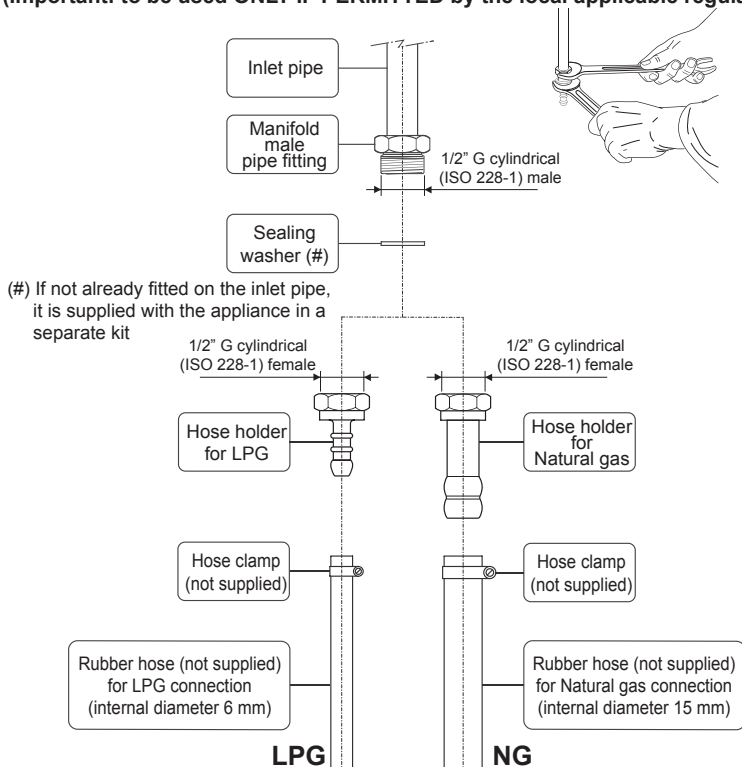

Fig. 8.2
1. If not already fitted, fit the Natural gas hose holder on the inlet pipe, making sure that you place the sealing washer between them (as shown in fig. 8.2).
1. If not already fitted, fit the LPG hose holder on the inlet pipe, making sure that you place the sealing washer between them (as shown in fig. 8.2).
- use two spanners when fitting the hose holder (fig. 8.2).